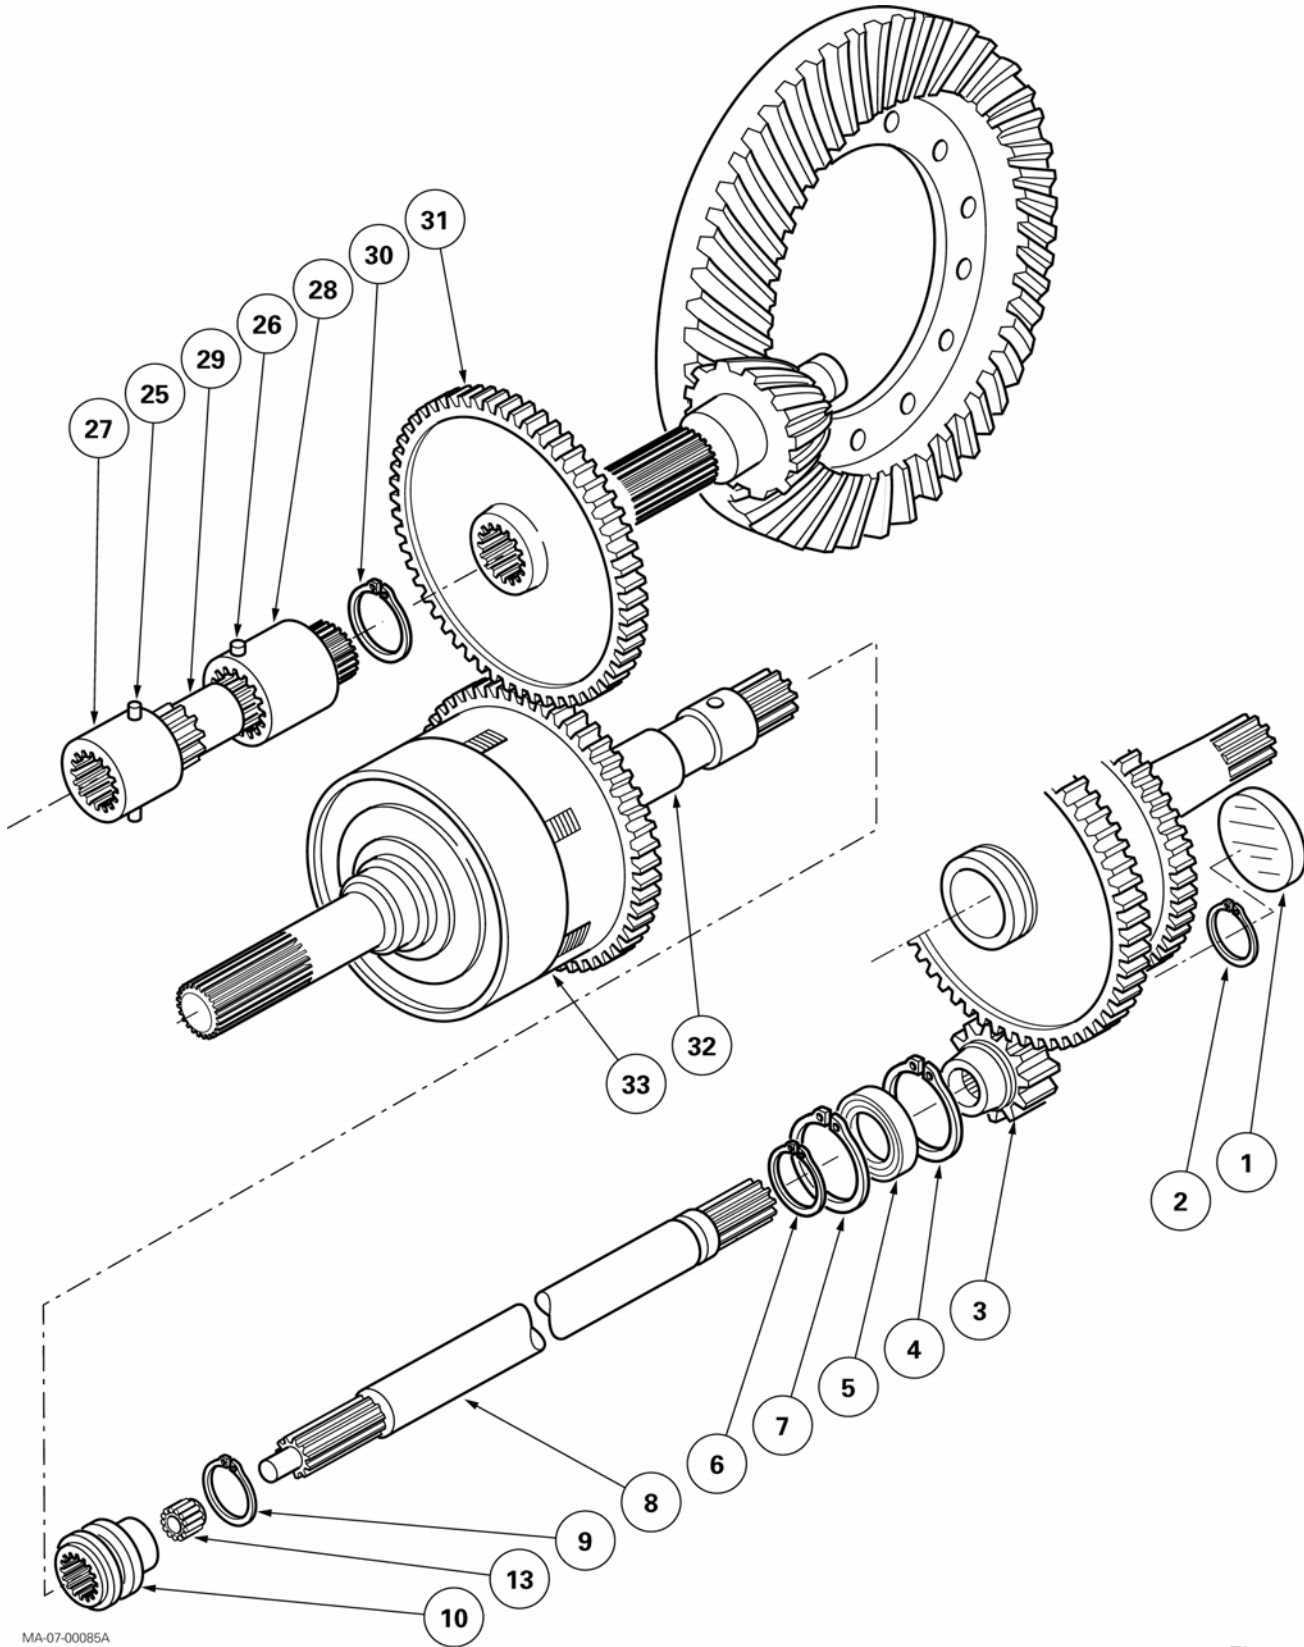

Fig. 3
8. Extract plug (1) (Fig. 3).
9. Take off circlip (2).